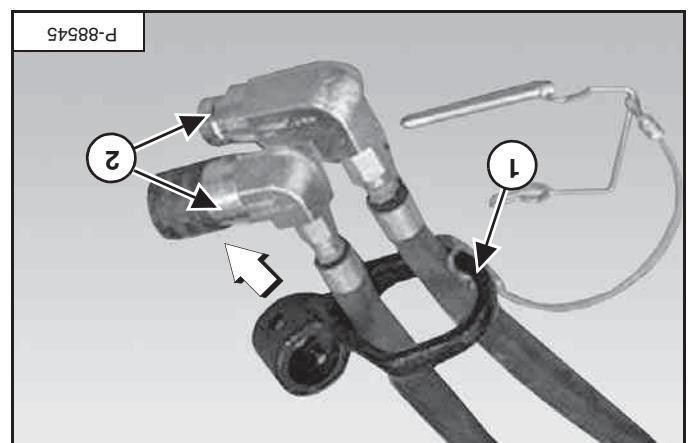
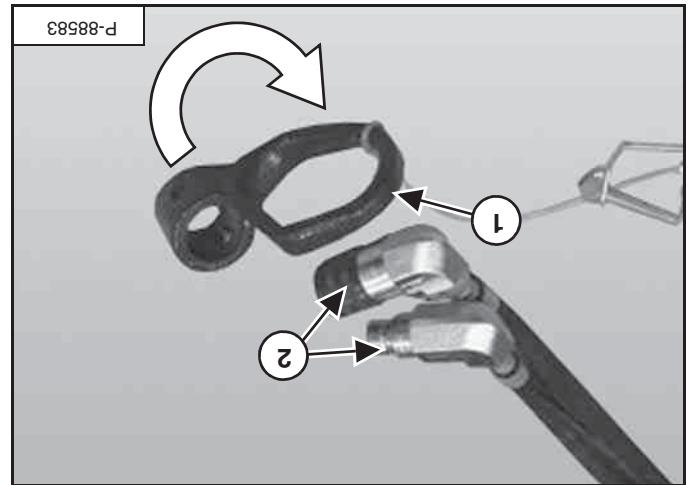

Figure 20
Figure 21
NOTE: If the couplers (item 2) [Figure 20] were removed, reinstall at this time.
NOTE: It may be necessary to remove the hose orientation, slide the removable hose guide (item 1) [Figure 20] onto the hoses.
To change the removable hose guide (item 1) [Figure 20] onto the hoses, slide the removable hose guide (item 1) over to reverse its orientation on the hoses (item 2) [Figure 21].
Flip the removable hose guide (item 1) over to reverse its orientation on the hoses (item 2) [Figure 21].